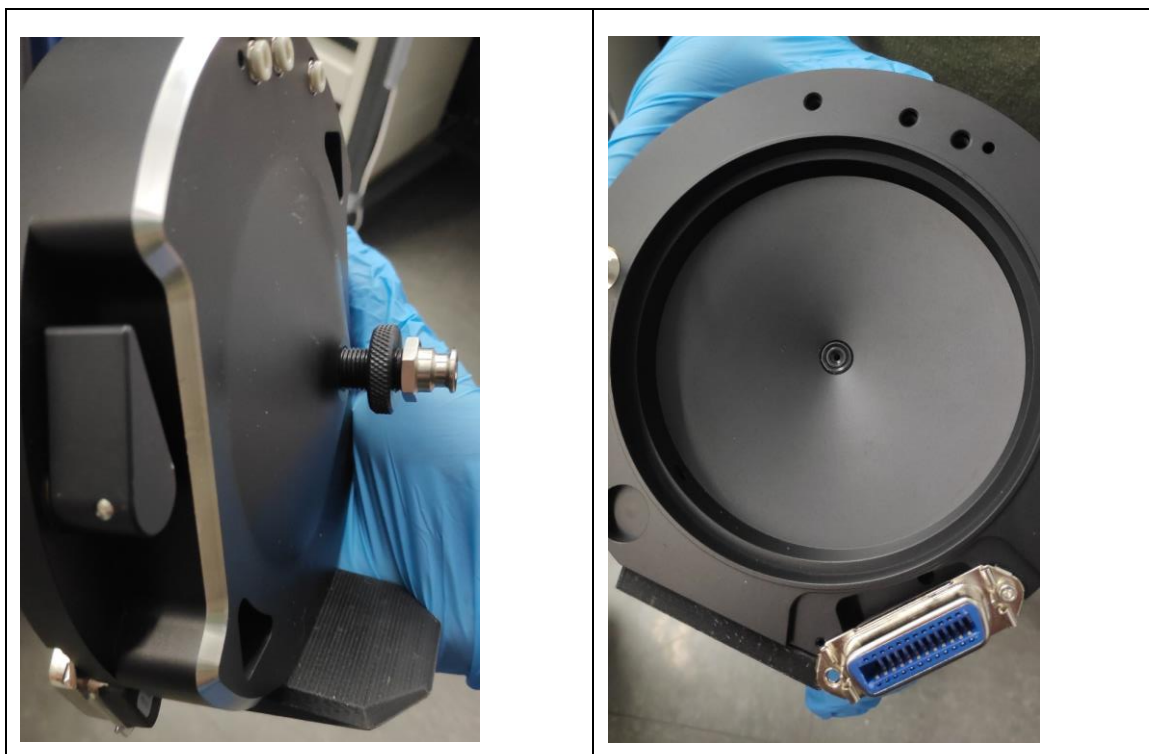

Figure 4: Installation of ion source adapter assembly.
- Mount the PEEK fixing nut onto the inlet adapter screw (top positioning, see Figure 4)
- Screw the ion source adapter assembly into the source housing (starting position aligned with housing cone, see Fig. 4)